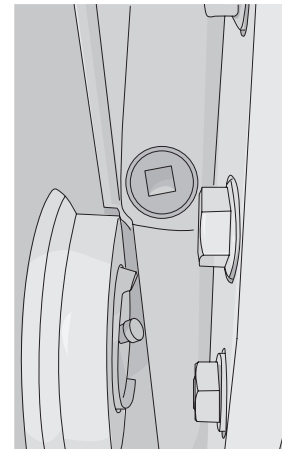
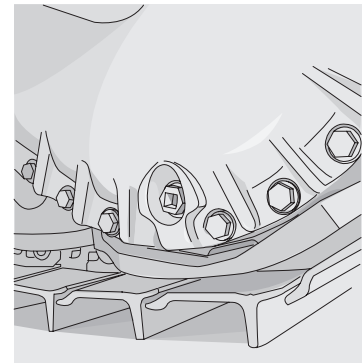

Figure 4-29
Figure 4-30
6. Final drive case (Figure 4-29 and Figure 4-30)